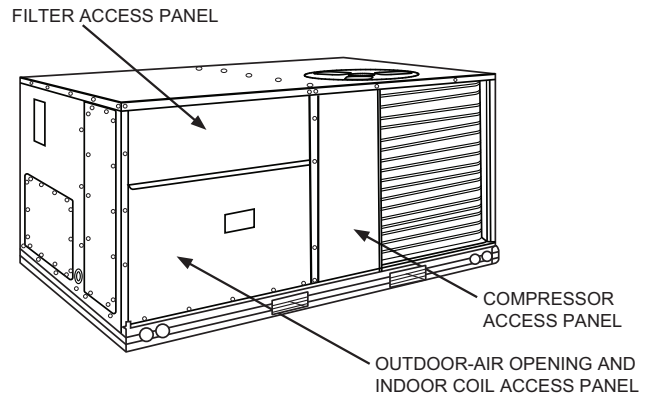

Fig. 2 — Typical Access Panel Locations
2. Remove the existing unit filter access panel. Raise the panel and swing the bottom outward. The panel is now disengaged from the track and can be removed (see Fig. 2).
3. Remove the indoor coil access panel and discard (see Fig. 2).